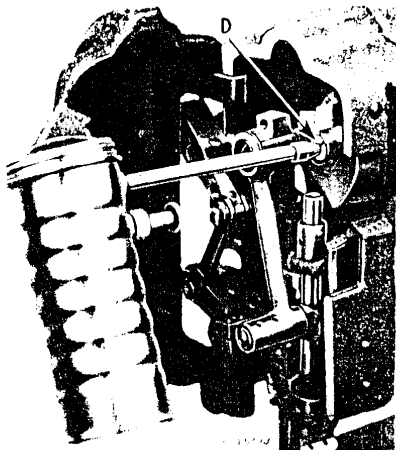

Fig. 6
USE ONLY THE PRESSURE OIL CAN NO. 228491 FURNISHED WITH THE MACHINE, AS SHOWN IN FIGS. 6 AND 8.
1. To fill arm shaft oil reservoir, insert spout of pressure oil can in hole **D**, Fig. 6 and inject 6 shots of oil into shaft.
Fill arm shaft oil reservoir **D**, Fig. 6 (approximately 6 shots of oil).